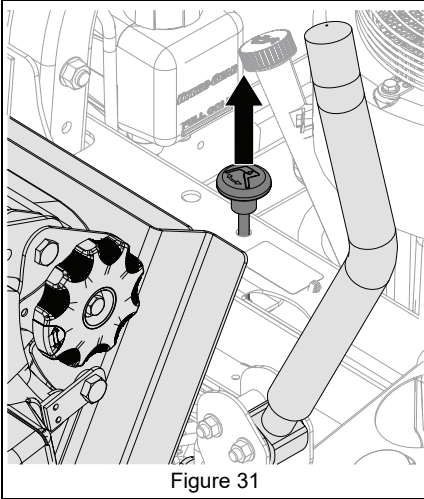

Figure 31
4. Pull seat latch release knob and rotate seat forward. See Figure 31.